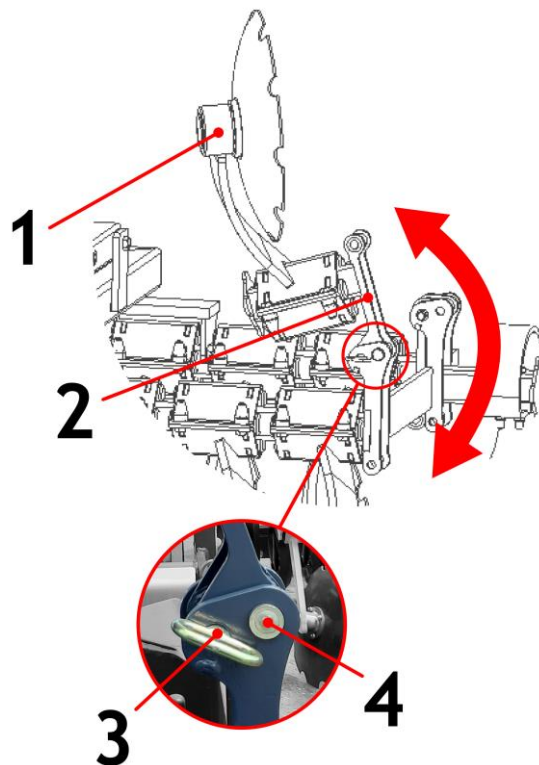

Figure 15 Outline disc in transport position (1 - disc with bearing, 2 - handle / hinge, 3 - position locking pin, 4 - hinge pin)
- When transporting the harrow, place the contour discs in the transport position (fig. 15), secure with pins and cotter pins (fig. 15 item 3). Proceed in the same way when adjusting the side screens to the transport position.